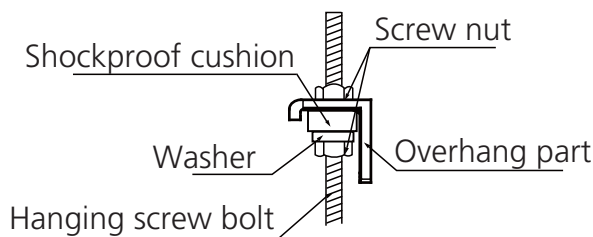

Fig. 4.9
9. Mount the indoor unit onto the hanging screw bolts with a block. Position the indoor unit flat using a level indicator to prevent leaks. (See Fig. 4.9)